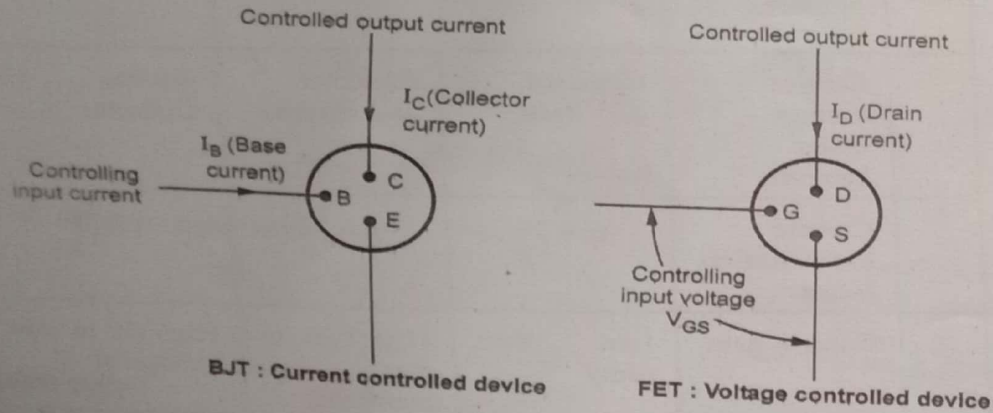

Fig. Q.1.1 Controlling element for BJT and FET
- The three terminals of FET are named as Drain (D), Source (S) and Gate (G), as shown in the Fig. Q.1.1. Out of these three terminals gate terminal acts as a controlling terminal.